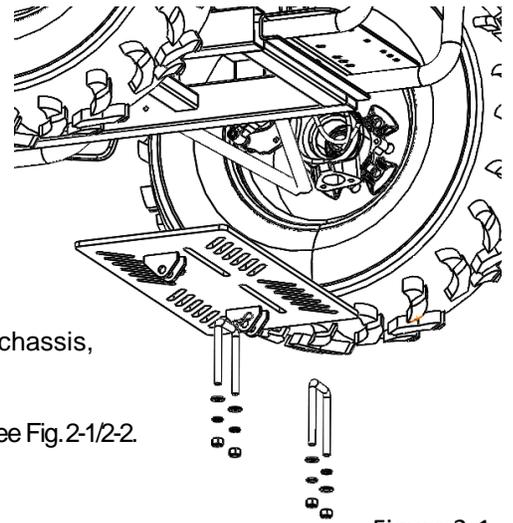

Figure 2-1
1. Mount the snow plow mounting brackets on the chassis, as shown in figure 2-1. Use four U bolts and the 3/8 locking nuts in the provided holes. See Fig. 2-1/2-2.